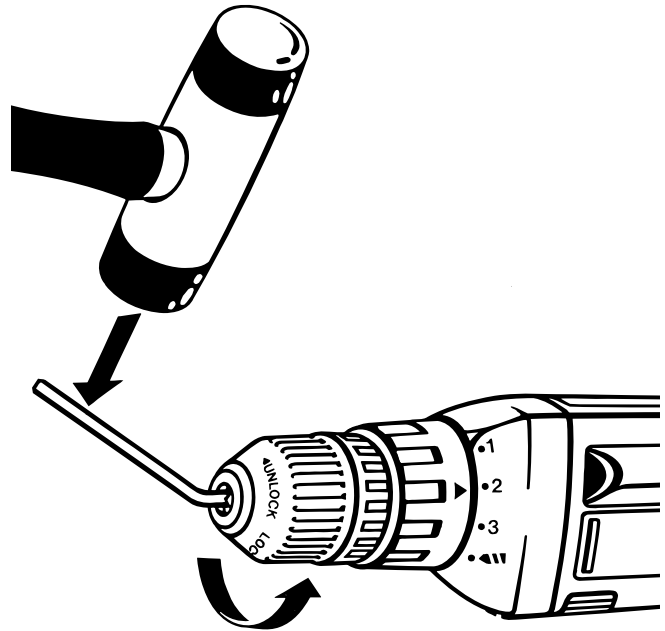

Fig. 15
- Insert allen wrench in chuck and tighten chuck jaws securely. Tap sharply with a mallet in a counterclockwise direction. This will loosen chuck on the spindle. It can now be unscrewed by hand. See Figure 15.